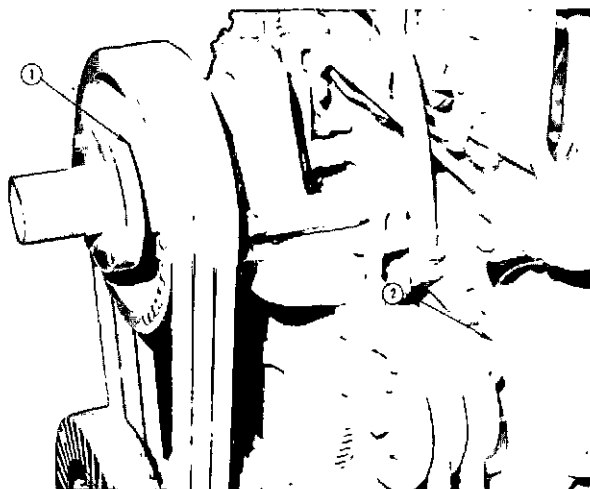

Fig. 5-30, V40821. Fan hub lubricating point
1. The water pump and fan hub contain plugs (1 and 2, Fig. 5-30) through which grease may be applied; give one "shot" (approx. 1 tablespoon) each "E" check.